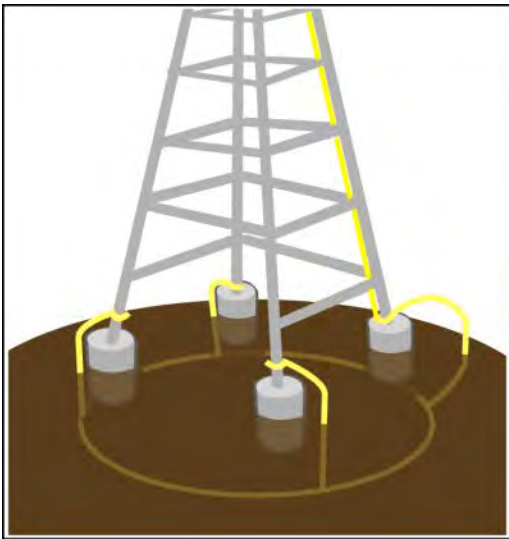

Figure 2: Tower ground system
1. The primary ground point or down lead provided by the existing ground system at the site, such as a part of the tower structure or the AC electrical system for the building (see Figure 2).